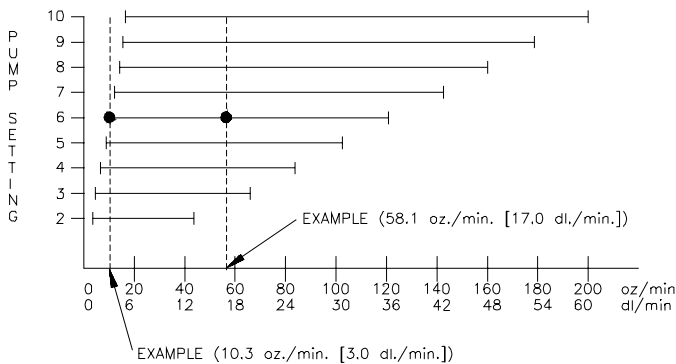

FIGURE 13A
The following procedure calculates the correct Pump Setting for Injection Pump. The High Volume Injection Module has an output range of 2.5 to 200 oz/min, use Figure 13A. The Low Volume Injection Module has an output range of 1.0 to 100 oz/min, use Figure 13B. The Ultra-Low Volume Injection Module has an output range of .5 to 40 oz/min, use Figure 13C.
- 2) Locate the calculated MAXIMUM and MINIMUM oz/min [dl/min] on the horizontal line of Pump Chart. (See Figures 13A, 13B & 13C).